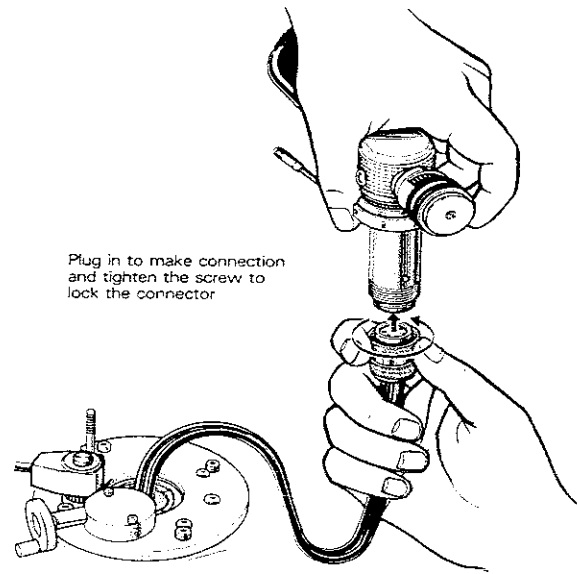

Fig. 6
1. Pass the attached audio cable through the arm base hole and connect the cable to the tonearm. As the audio cable connector is of the screw lock type, tighten the screw to lock the connector (Fig. 6).